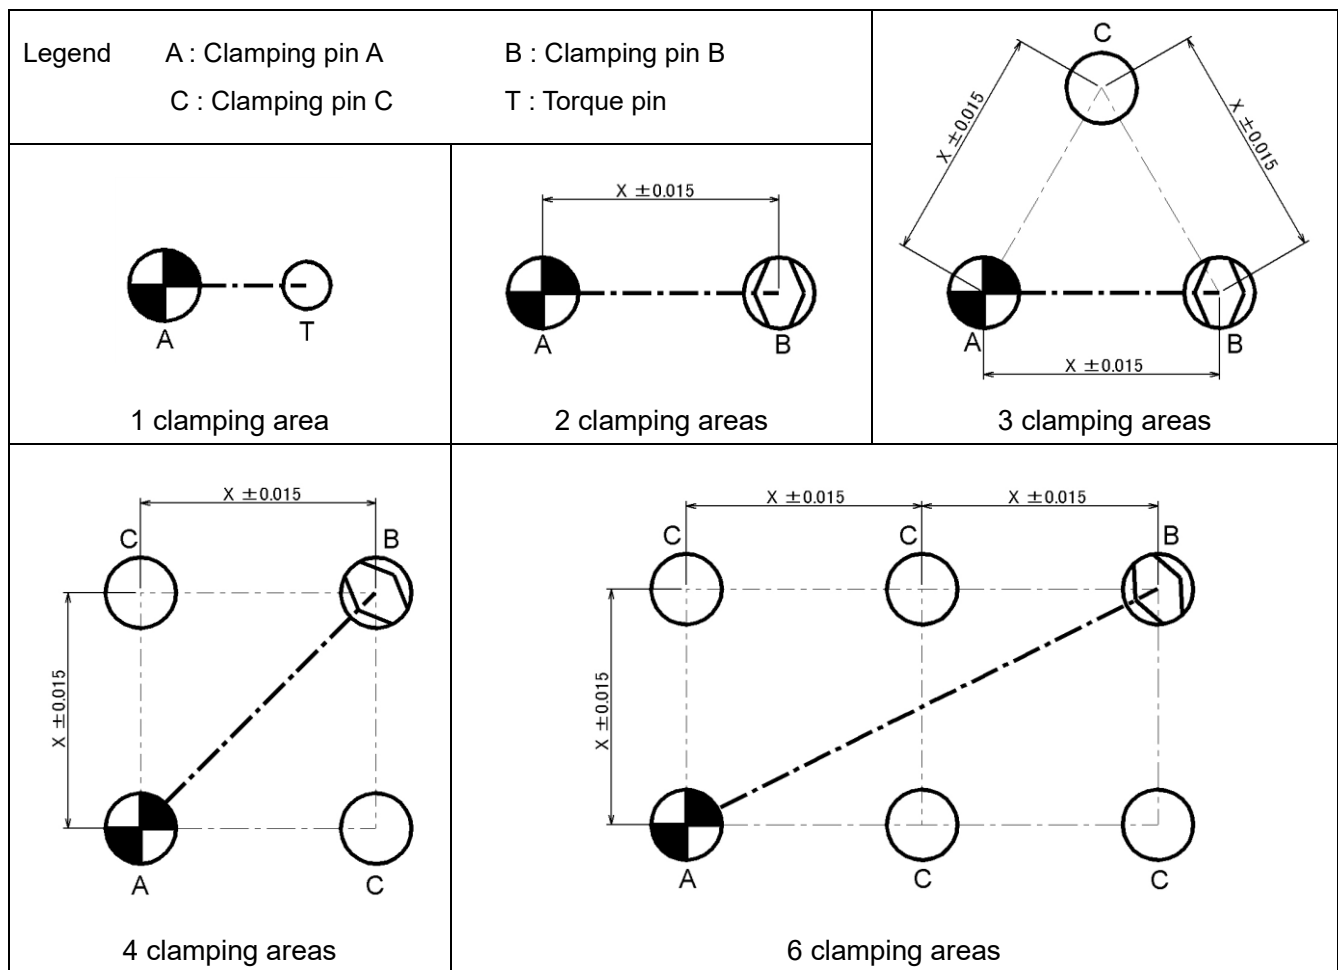

Figure 10 Examples of using clamping pins and torque pin
- As shown in Figure 10, determine the type and position of the clamping pin according to the number of pallet clamping systems to be used. In particular, note that clamping pin B (diamond pin) has an orientation relative to clamping pin A (reference pin).